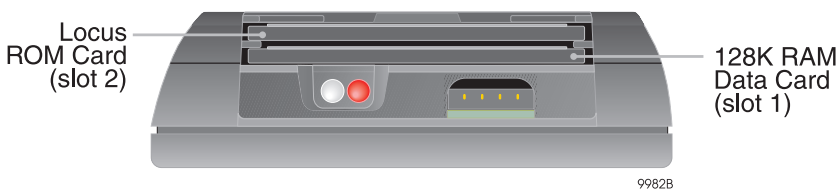

Figure 2.14: Inserting ROM Card Into Slot 2
4. Insert the Locus Software ROM card in slot 2 (Figure 2.14).
4. Insert the Locus Software ROM card in slot 1 (Figure 2.14).